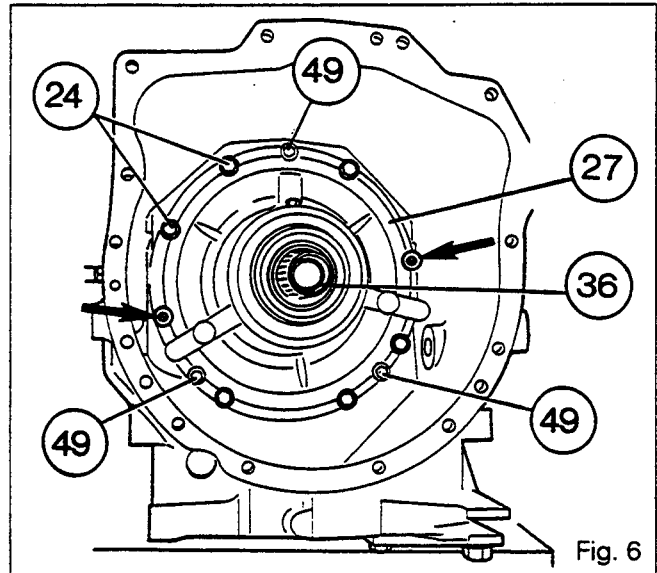

Fig. 6
4. Unscrew bolts (24) (Fig.6).
5. Screw two pilot pins into the gearbox housing in diametrically opposed positions (Fig.6).
6. Unscrew the three bolts (49) a little at a time, taking them in order (Fig.6).
7. Remove cover (27) together with shaft (36) (Fig.6). Discard O-rings (1) and (2), (19).
8. Take out disc (21), pressure plate (20), Belleville spring disc (18) and planetary carrier assembly (50).